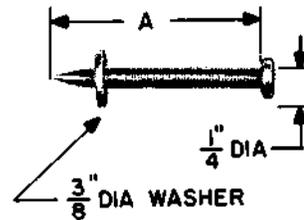

Fig. 21 — B Masonry Fastener
washers and are designated as B, C, and D. They are furnished in several lengths by size number. See Fig. 21 through 23.
6.09 The B, C, and D fasteners and B wire loop size numbers and dimensions are as shown in Fig. 21 through 24.